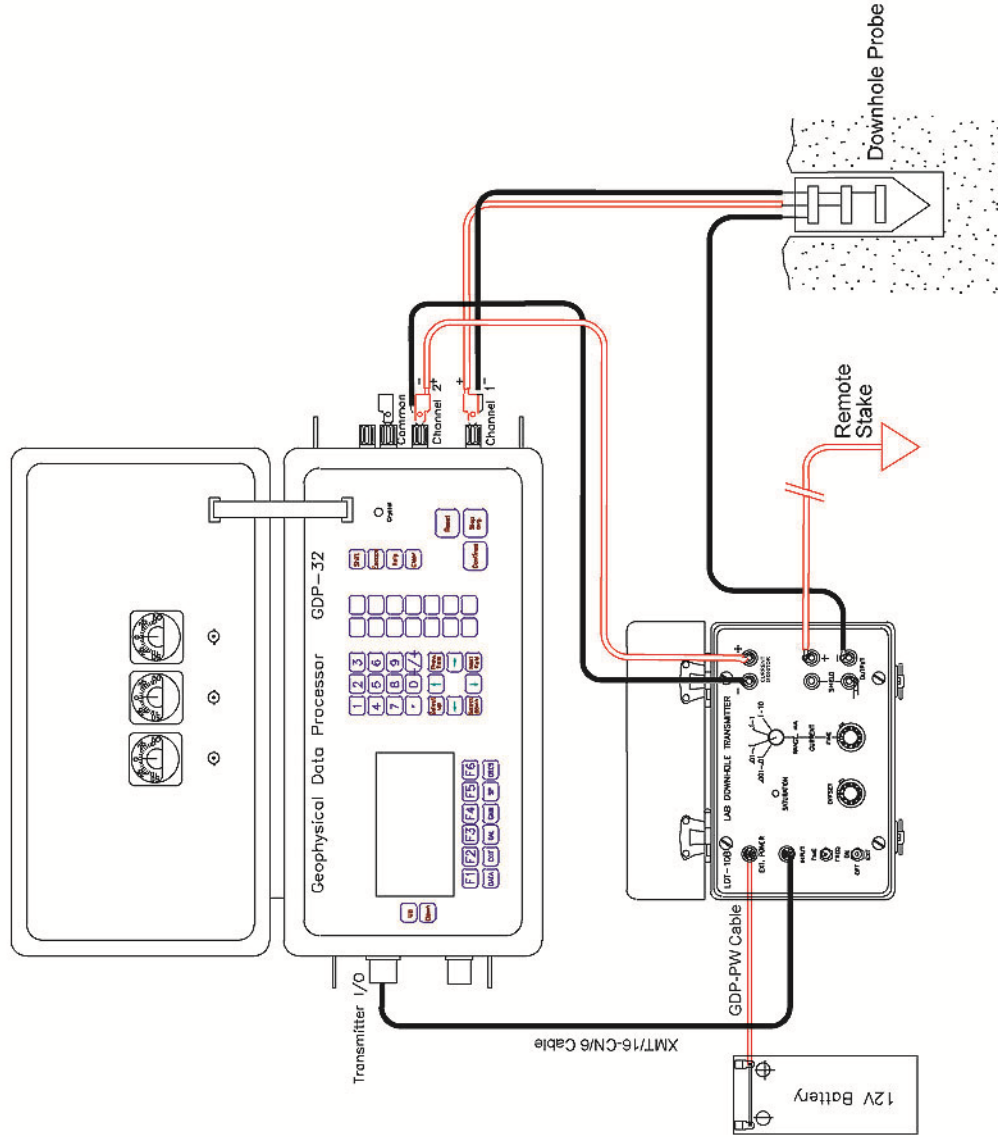

Figure 3 Lab Transmitter Downhole Configuration.
- 3.1. Downhole measurements can be made using the configuration shown in *Figure 3*. The current output should be used with the negative terminal attached to the downhole electrode. Select the current desired, up to 10 milliamps, being careful not to saturate. Current is monitored using the **CURRENT MONITOR** output as shown.